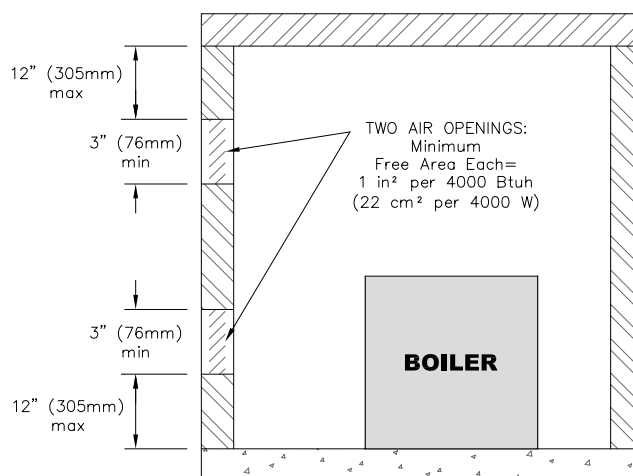
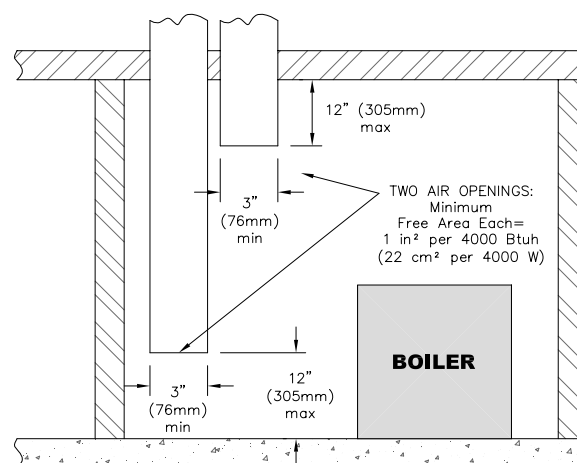

Figure 1.4: Air Openings – All Air Directly from Outdoors
Figure 1.5: Air Openings – All Air from Outdoors through Vertical Ducts
- i. Where communicating directly or through vertical ducts with the outdoors each opening shall have a minimum free area of 1 in2 per 4000 Btu/hr (22 cm2 per 4000 W) of total input rating for all equipment in the space. See Figure 1.4 for openings directly communicating with the outdoors or Figure 1.5 for openings connected by ducts to the outdoors.